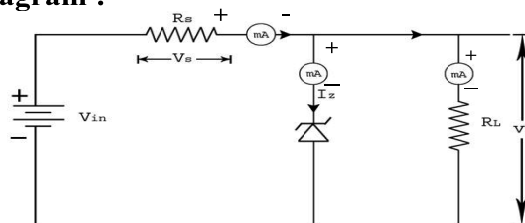

Figure 1: ZenerDiode shunt regulator
1. Connect the circuit as in figure 1.